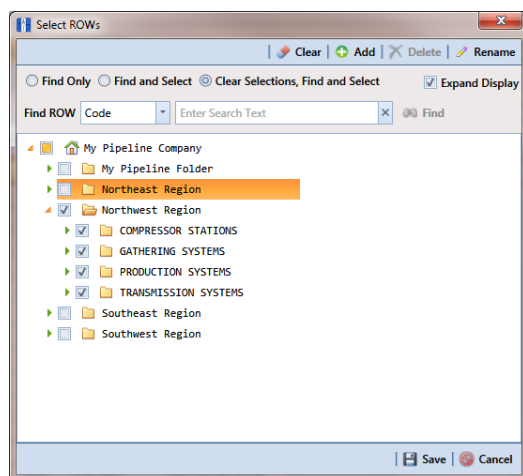

Figure 7-4. Select ROWs
- 1 Click the **Select ROWs** button  to open the *Select ROWs* window (Figure 7-4, page 192).
- 1 Click the **Select ROWs** button  to open the *Select ROWs* window (Figure 7-4, page 192). Select one or more pipeline segments with facilities you want to work with, then click  **Save** to close the window.